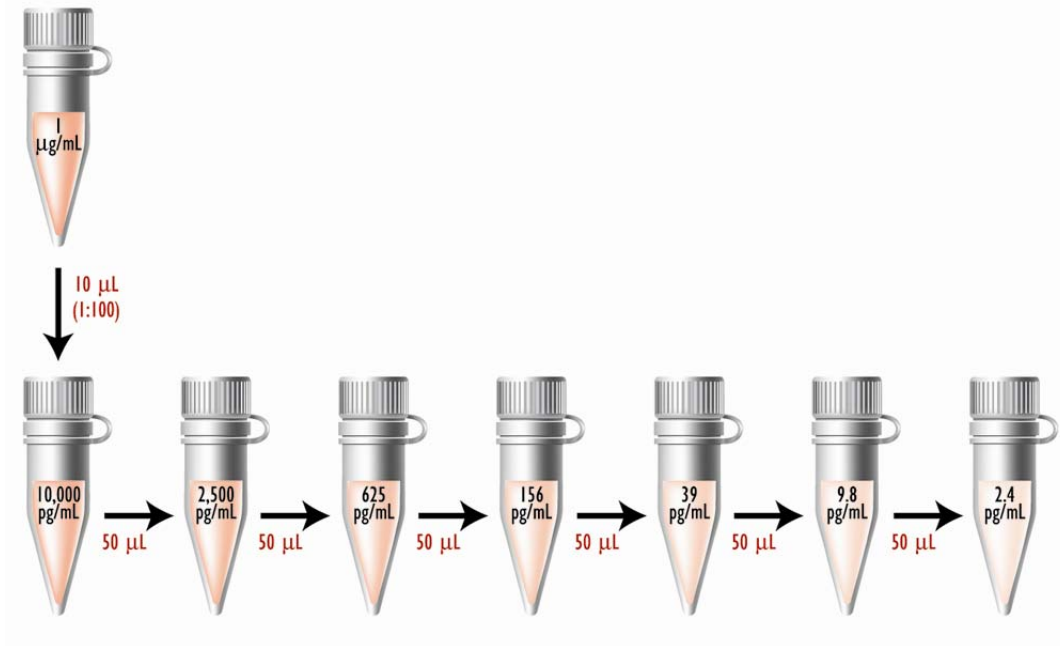

Figure 3. Calibration curve preparation from stock solution (1 $\mu\text{g}/\text{mL}$).
2. **Addition of Sample or Calibrator:** Dispense 25 μ L of each Calibrator or Sample Solution into a separate well of the MSD plate. Figure 3 illustrates one plate arrangement of calibrator solutions that can be used to evaluate the performance of the assay. Seal the plate with an adhesive plate seal and incubate for 1 to 2 hours with vigorous shaking (300-1000 rpm) at room temperature. In general, shaking the plate results in better mixing and more rapid binding of the sample to the capture antibodies. If a protocol without shaking is preferred, a longer incubation time (4 hours or longer) may be required to achieve the same sensitivity.